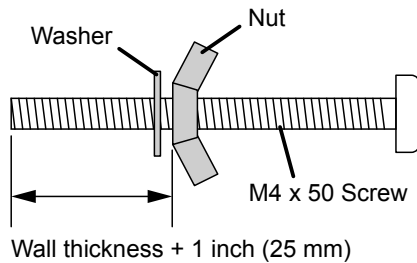

Figure 4
- 2. Assemble the supplied M4x50 Screw, Nut, and Washer as the Figure 4.